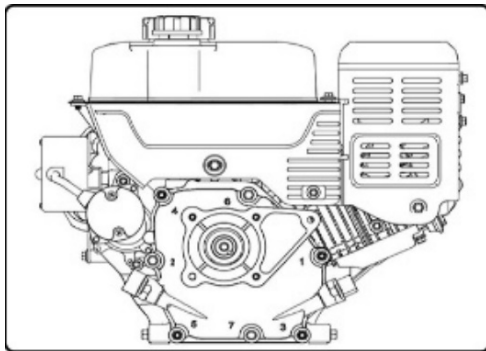

Fig. 34
2. Unscrew the oil plug with the dipstick and wipe the dipstick. See figure 34.
1. Locate the oil drain plug, see figure 34.
3. Clean the area around the oil drain plug, see figure 34.